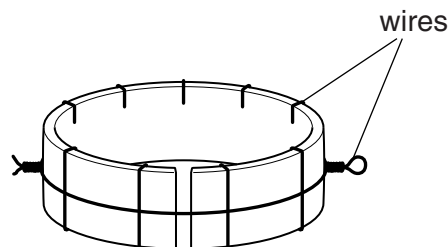

Fig. 5
- 10 Fig. 5 gives details of a copper strip ready for soldering to create a ring. [3]